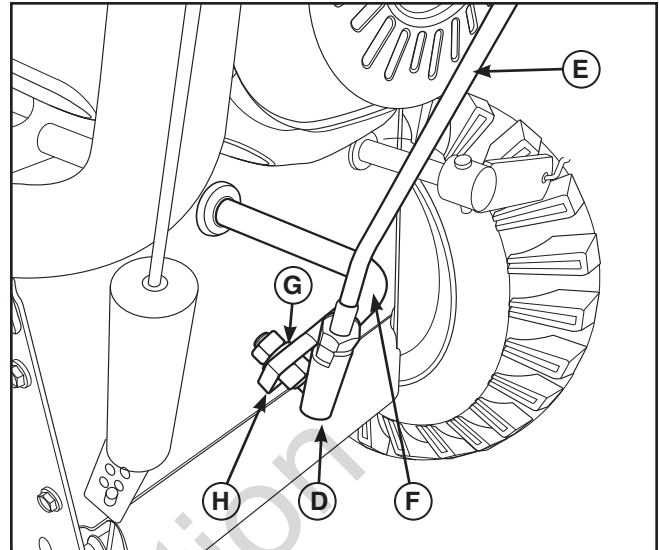

Figure 2
Attach the ball joint (D, Figure 2), located on the bottom end of the speed control rod (E), to the shift yoke assembly (F) with 5/16" lock washer (G) and 5/16" nut (H). Tighten nut securely.